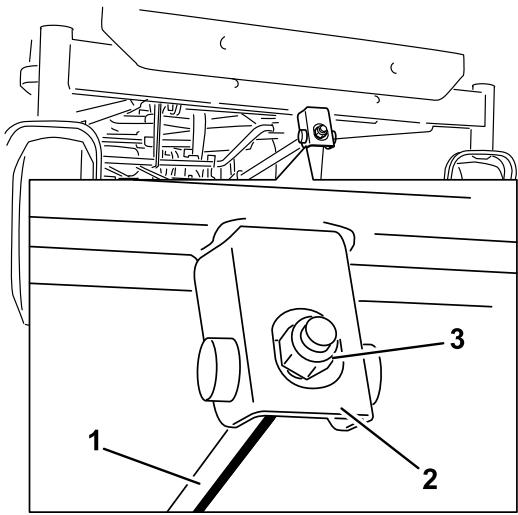

Figure 72
6. To adjust the front-to-rear blade slope, rotate the adjustment nut in the front of the mower (Figure 72).
5. Lift the rear of the mower deck and guide the hanger brackets over the rear lift rod (Figure 72).
6. Attach the front support rod to the mower deck with the clevis pin and hairpin cotter (Figure 72).